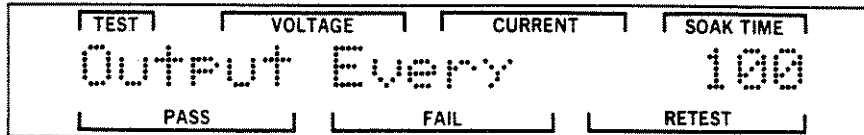

Figure 3-91. Output Number Screen
STEP 11. If the results of the Breakdown test are to be printed, a value of 1 must be set for N. If the results are not to be printed, some other value must be set. Press the RIGHT pushbutton to access the individual printer screens. Press the UP or DOWN pushbutton until the Output Number screen is displayed. Figure 3-91 is an example of this screen.